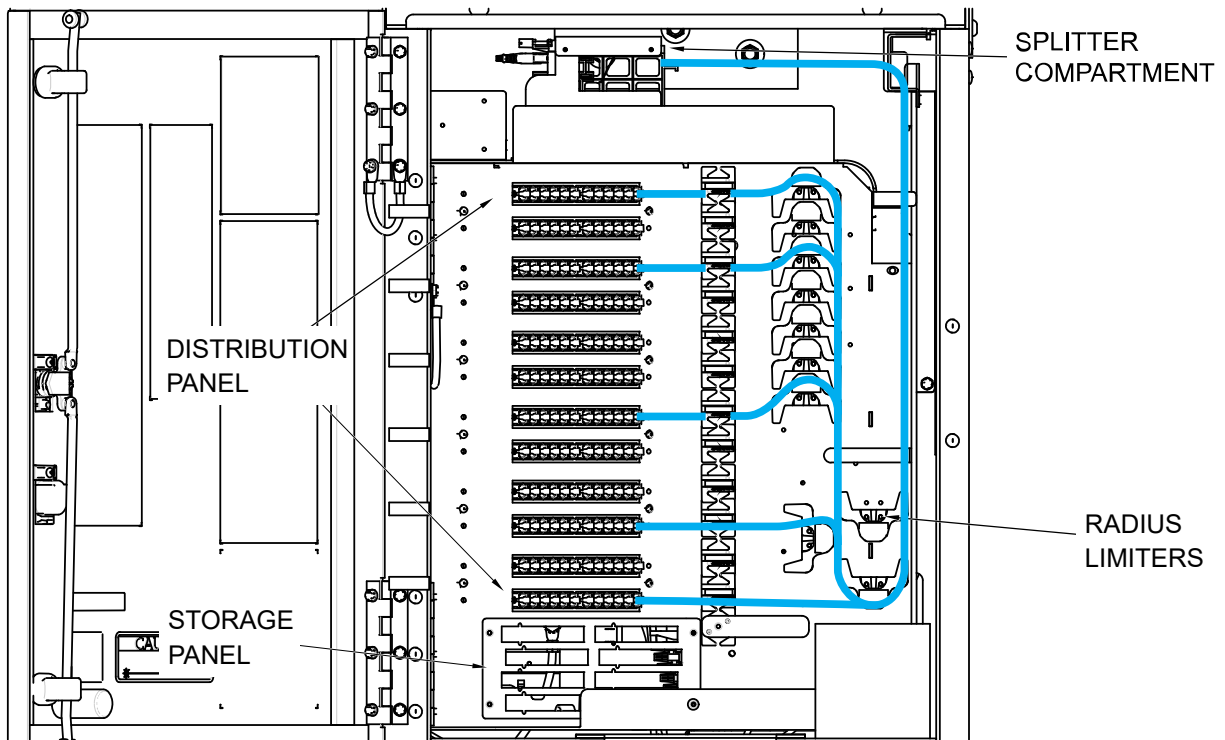

Figure 30. Routing Splitter Output Fibers
15.1.3 Use the radius limiters on the right side of the cabinet to store any excess fiber slack. Refer to Figure 30 for the routing guidelines.
15.2.6 Use the radius limiters on the right side of the cabinet to store any excess fiber slack. Refer to Figure 30 for the routing guidelines.